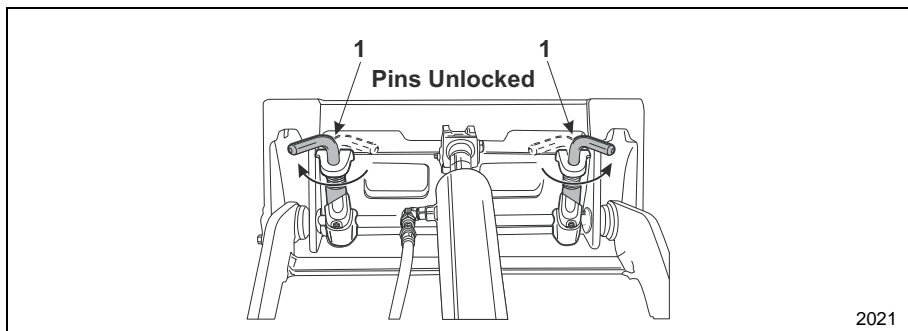
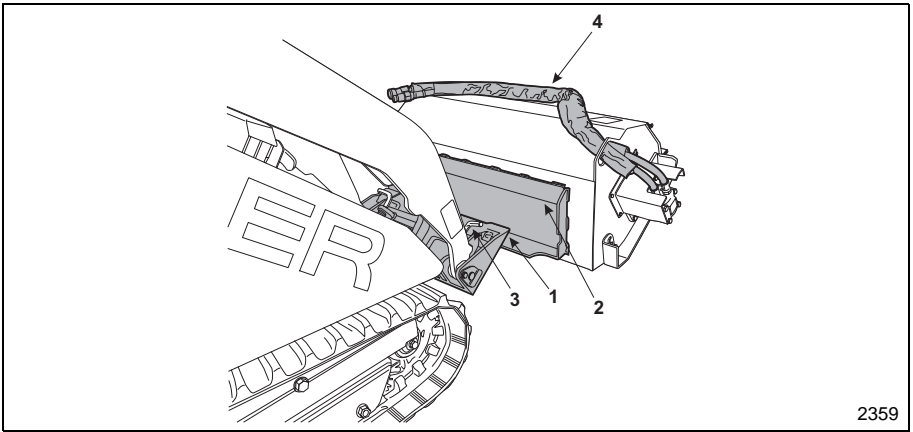

Figure 2 Attachment Locks in Unlocked Position
Figure 3 Hydraulically Powered Attachment Installation
NOTICE: Make sure that both of the attachment lock pins (Item 1, Figure 2 and Item 3, Figure 3) are in the “unlocked” position.
3. Slowly drive towards the attachment and align the top edge of the male mounting plate (Item 1, Figure 3) and the upper lip of the female attachment mounting plate (Item 2, Figure 3).
NOTICE: Make sure to position the attachments hydraulic hoses (Item 4, Figure 3) so that they are not damaged during the installation process. Tuck the upper edge of the male mounting plate into the upper lip of the female attachment mounting plate.